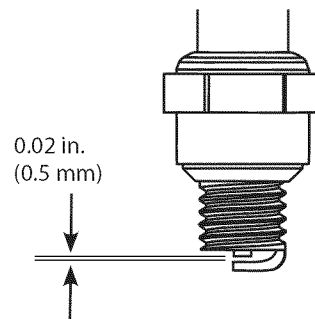

Fig. 21
3. Replace cracked, fouled or dirty spark plug. Set the air gap at 0.02 in. (0.5 mm.) using a feeler gauge (Fig. 21).